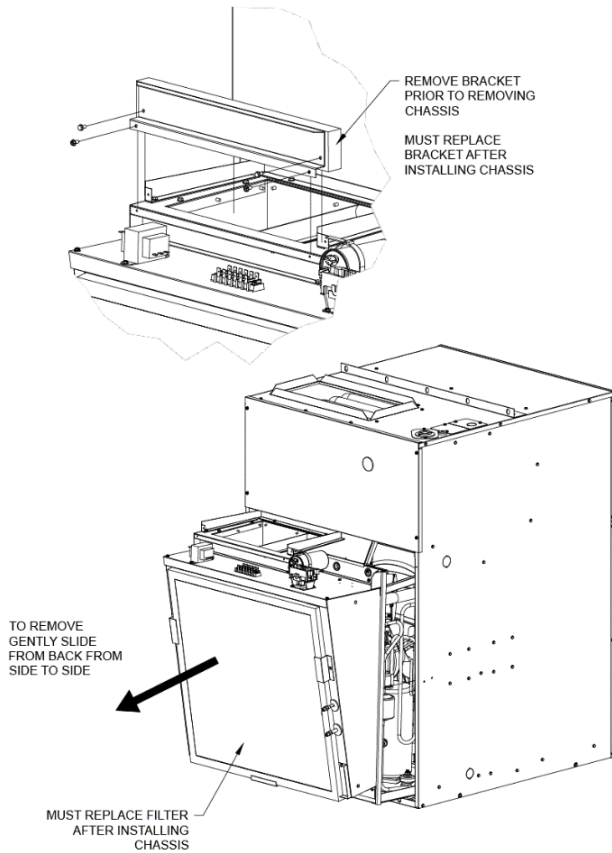

Figure 48– Slide Out Chassis
- 3) Unplug mating harness connectors for low voltage and high voltage in the control section **FIGURE 47- Line Voltage Connector, Figure 48- Low Voltage Connector**.
- 3) Disconnect low voltage (6 pin) & line voltage (3 pin) harness connectors by pressing on the release tabs and using a downward motion (**FIGURE 46 – Line Voltage Connector (3 Pin)** & **FIGURE 48 – Low Voltage Connector (6 pin)**).